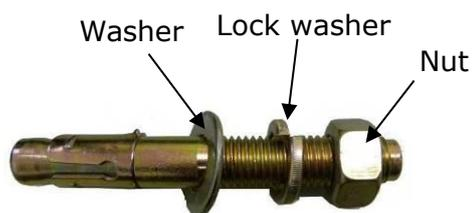

Fig. 15
1. Prepare the anchor bolts (See Fig.15)